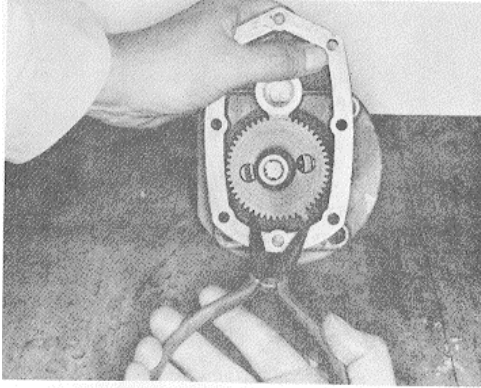

Fig. 5-48, F539. Removing snap ring from groove
7. Remove large snap ring from pump end of drive shaft between drive cover and drive gear with hose clamp pliers or grind a small groove in a pair of needle nose pliers. Fig. 5-48.